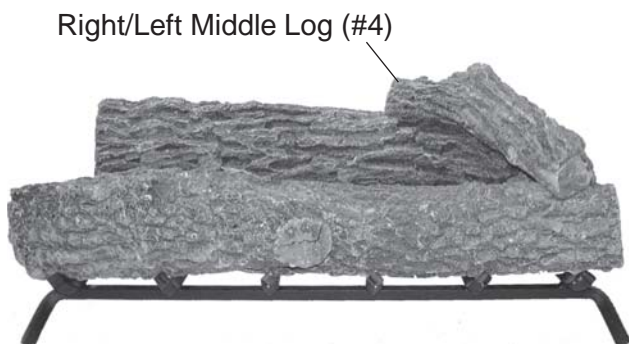

Figure 60 - Positioning Right/Left Middle Log (#4)
3. Position Right/Left Middle Log #4 on top right of Log #1 and Log #2. *See Figure 60.*